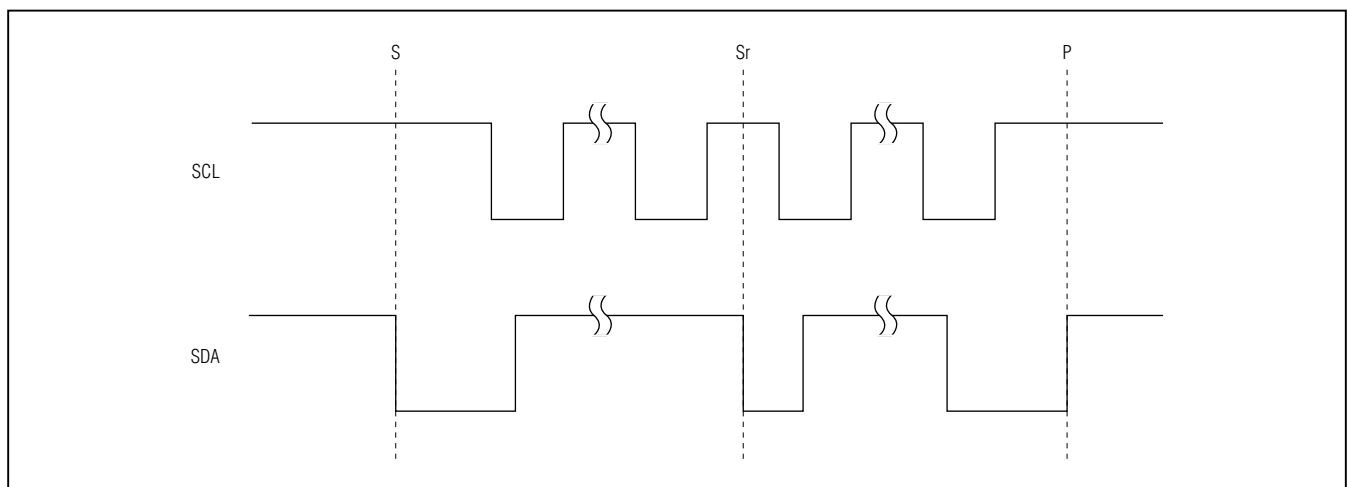

Figure 17. I²C START, STOP, and Repeated START Conditions
When writing to the device using I²C, the master sends a START condition (S) followed by the MAX3108A I²C address. After the address, the master sends the register address of the register that is to be programmed. The master then ends communication by issuing a STOP condition (P) to relinquish control of the bus, or a repeated START condition (Sr) to communicate to another I²C slave. See Figure 17.